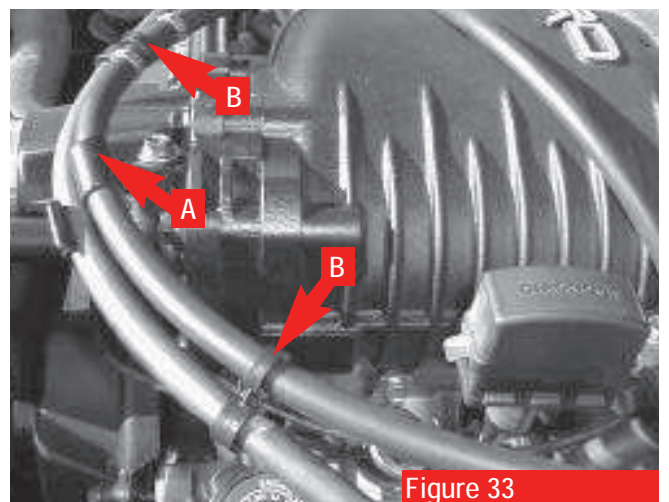

Figure 33
8. Remove the throttle cable/evaporative canister hose bracket and bolt from the stock manifold. Install the bracket on the supercharger as shown (see arrow A, figure 33). Insert the throttle cable and evaporative canister hose, and install the Zip Tys on the throttle cable and evaporative canister hose as shown (see arrows B, figure 33).